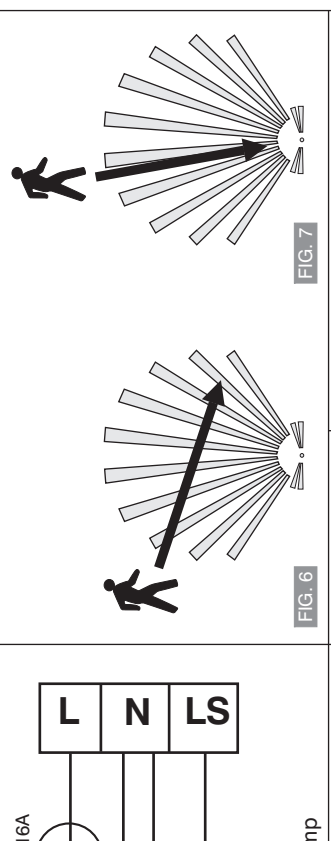
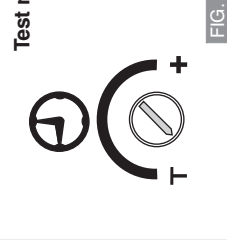

FIG. 6
FIG. 7
- Prior to mounting, keep in mind that the motion sensor is more sensitive to the motion, which is across the detection field (FIG. 6) and less sensitive to the motion, which moves directly towards the detector (FIG. 7).